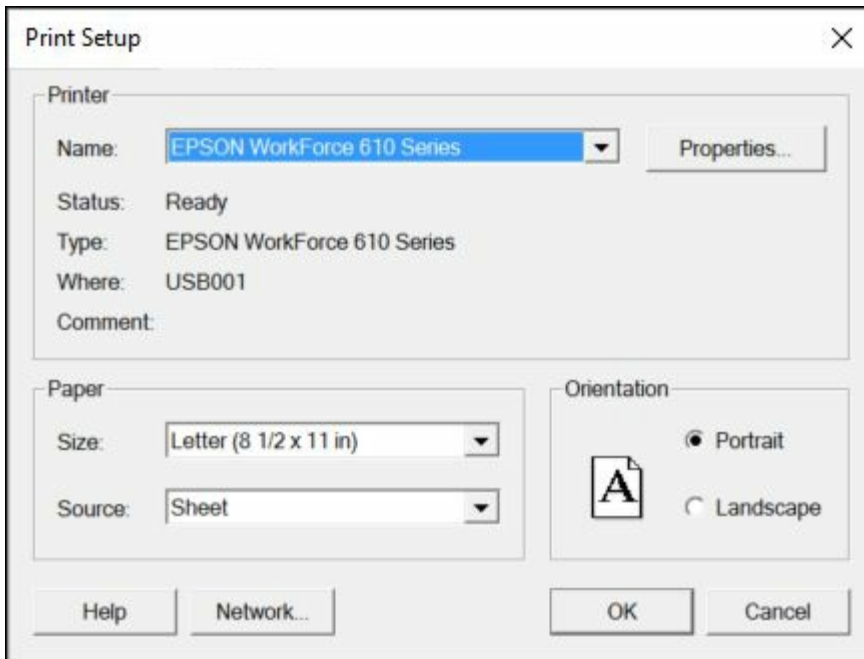

FIGURE 12-1: The Print Setup dialog box in Windows.
3. **In the Print Setup dialog box shown in Figure 12-1, do the following:**